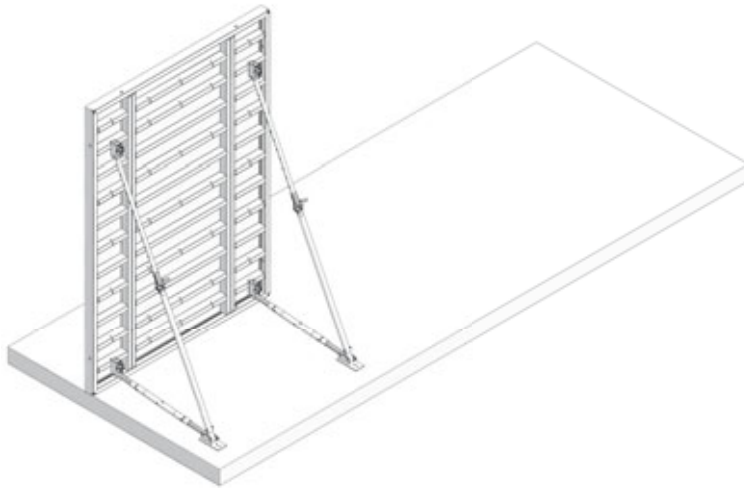

Fig. 43.1
2. Place the first panel and immediately attach it with two brace frames to the ground to prevent it from falling over (Fig. 43.1). Attach the foot plates firmly to the ground, with two soil nails when attached directly to the soil or with two heavy-duty dowels when attached to a concrete foundation.